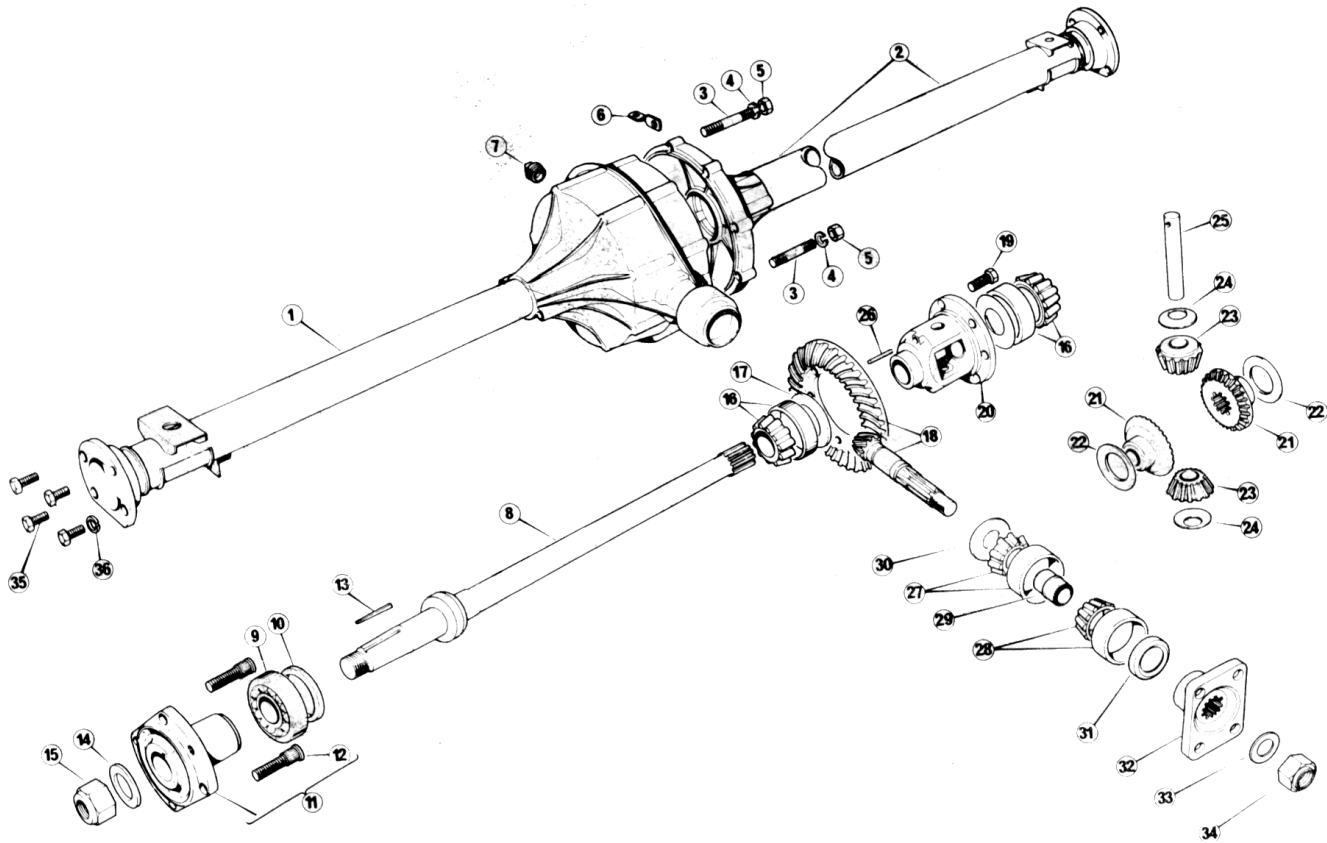

FIG 7 : 7 The rear axle components
**Key to Fig 7 : 7** 1, 2 Axle tubes 3 Studs 4 Lockwashers 5 Nuts 6 Bracket 7 Filler/level plug 8 Halfshaft
The components of the rear axle on 750 models are shown in **FIG 7 : 7**. 850 models are similar, with the addition of an oil seal retaining plate to protect the brakes.